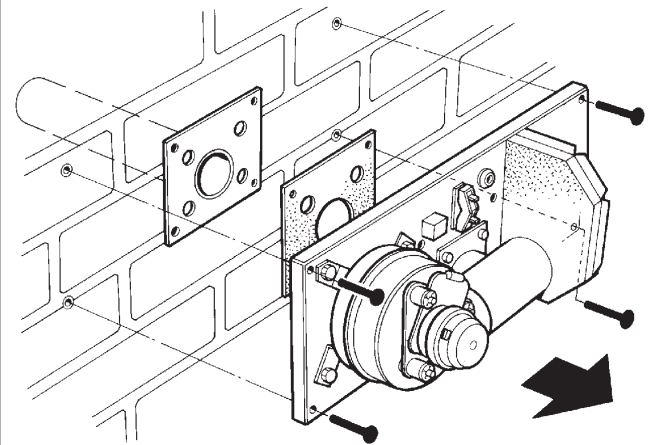

FIG. 11
5. Remove card template and place flue terminal assembly onto the hole. (See Fig. 11)